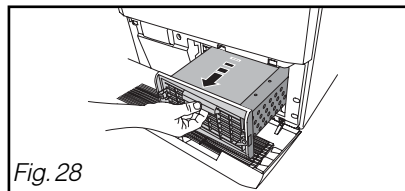

Fig. 28
- Remove it carefully (Fig. 28).